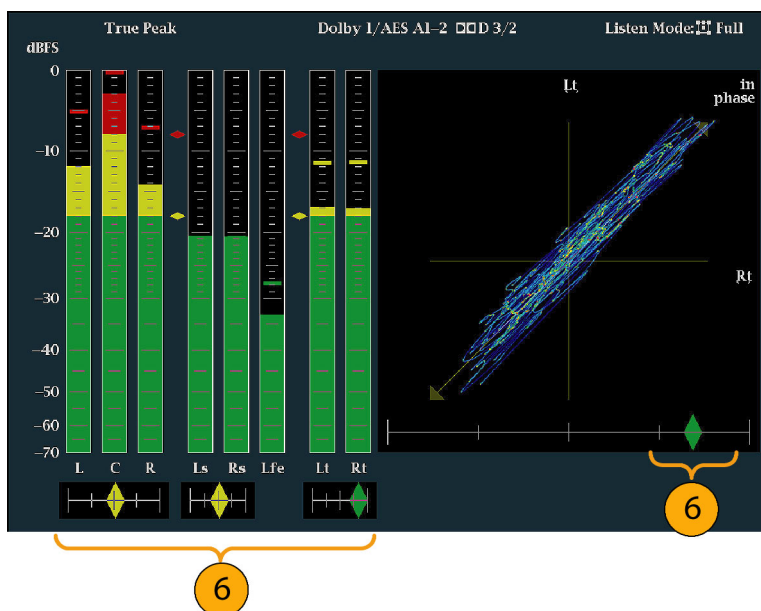

Figure 57: Checking for phase correlation
6. Check for Phase correlation of the signals, noting the following: (See Figure 57.)